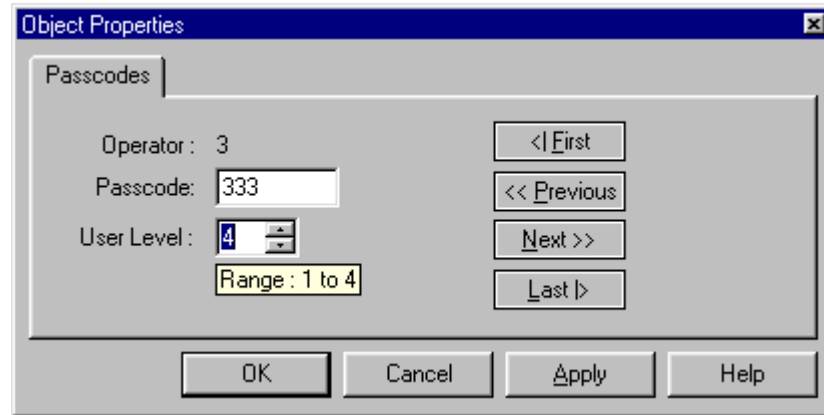

Figure 4-6. Passcode Dialog
3. Double click on the line corresponding to the passcode you want to add or edit. A screen similar to the one shown in Figure 4-6 appears.